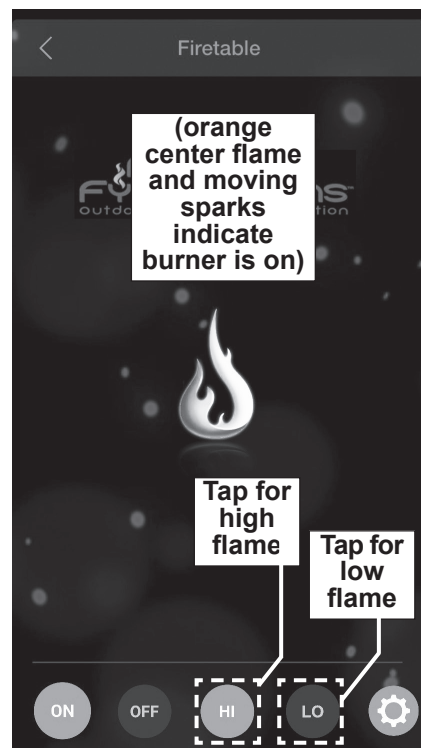

Fig. 37-1 Remote Operation:
1. Locate the control panel on the side of the unit (refer to the IDENTIFICATION PARTS LIST if needed), and identify the **AUX CONTROL** and **POWER** buttons (see Fig. 37-1).
3. From within the app, proceed to the Devices screen and select your unit. The remote screen will appear. See Fig. 37-1.
4. Tap the **ON** icon found on the bottom left of your remote screen (see Fig. 37-1).
The flame height can be adjusted via the remote app. Tap the **HI (high)** button to increase the flame height. Tap the **LO (low)** button to decrease the flame height. See Fig. 37-1. (LO setting available after 60 seconds.)
To shut down the burner (system will remain on), tap the **OFF** icon found on the bottom left of your remote screen. The screen will no longer display the orange center flame and moving sparks. See Fig. 37-1. The **AUX CONTROL** button indicator light will also go off.
To shut down the burner and system (total shutdown), or if the remote app is unavailable, push the **POWER** button on the control panel. See Fig. 37-1. The **POWER** and **AUX CONTROL** button indicator lights will go off. (Fully power off when covering or when not in use.)